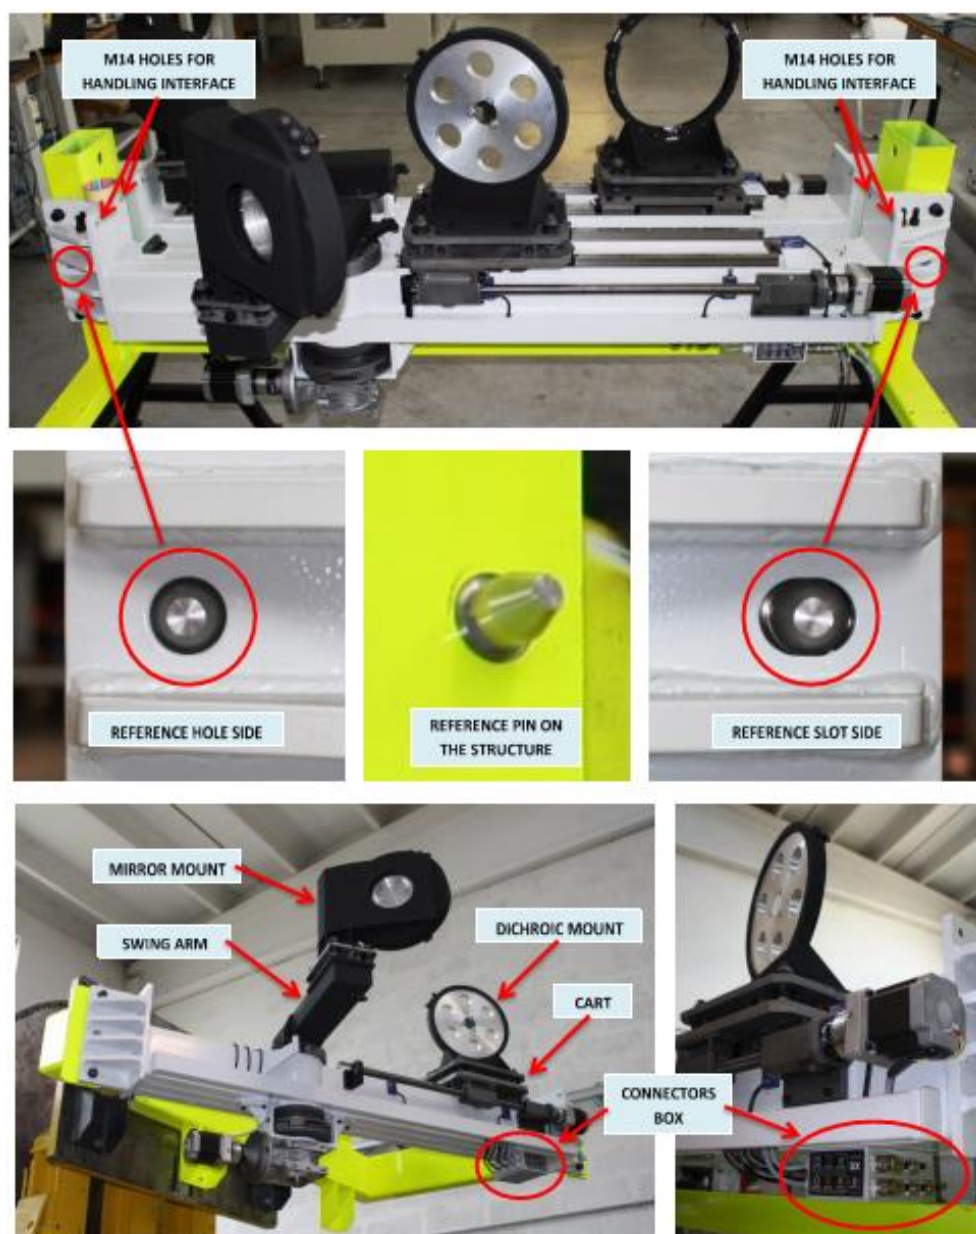

Figure 1. Image of the ARGOS dichroic mount unit and its interfaces to the Handling device and the Rotator gallery pads.
1. Dichroic mount unit: depicted in Figure 1 it is composed by a common support structure for both the dichroic and fold mirror sliding mounts and by the 2 optic cells.